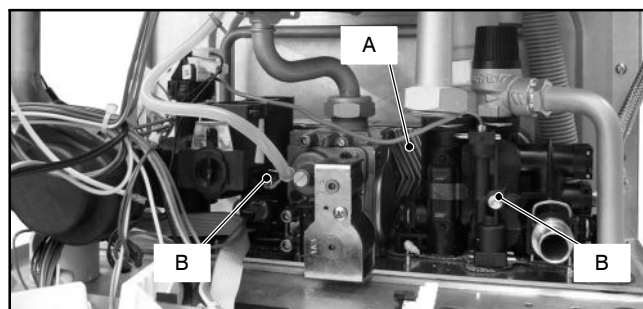

Fig. 6.3
The d.h.w. heat exchanger A in Fig. 6.1 and Fig. 6.3 allows the instantaneous transfer of heat from the primary hydraulic circuit to the water destined for d.h.w. use.
- 6 Completely unscrew the Allen key screws B (Fig. 6.3) which hold the exchanger to the plastic groups.